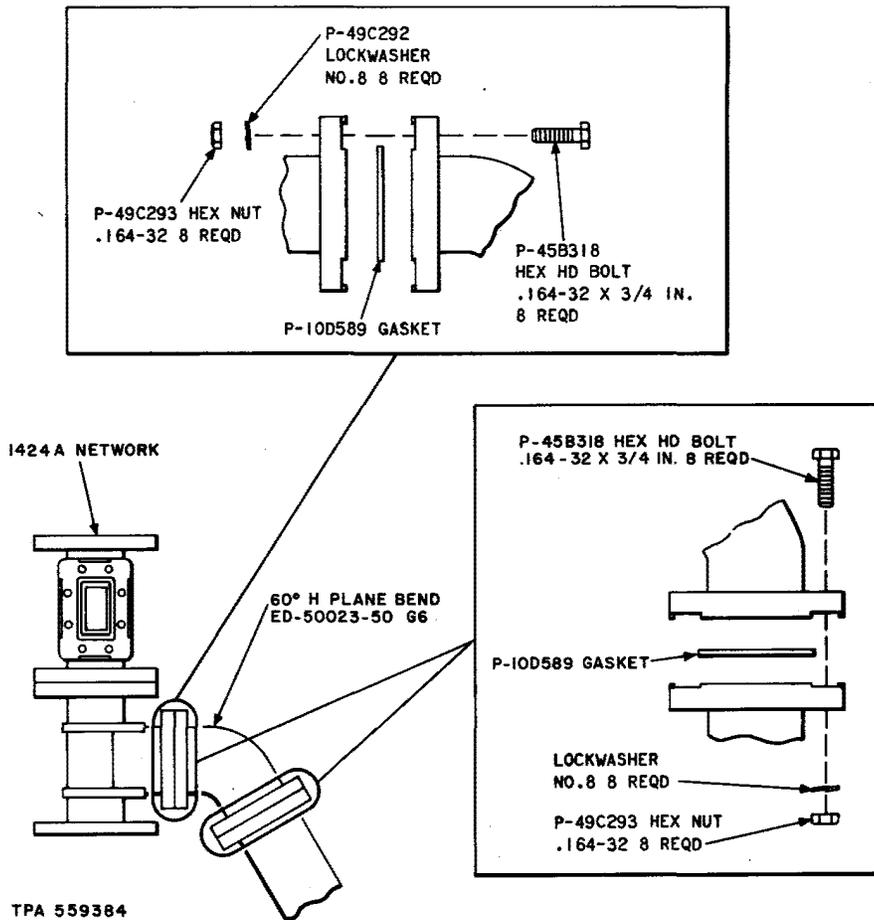

Fig. 5—Installation 60°H Plane Bend and KS-16499 Flexible Waveguide
2.12 Attach the ED-50023-50, G6 60 degree H plane bend to the 1424A network as shown in Fig. 5, using the bolts, gasket, lockwashers, and nuts provided.